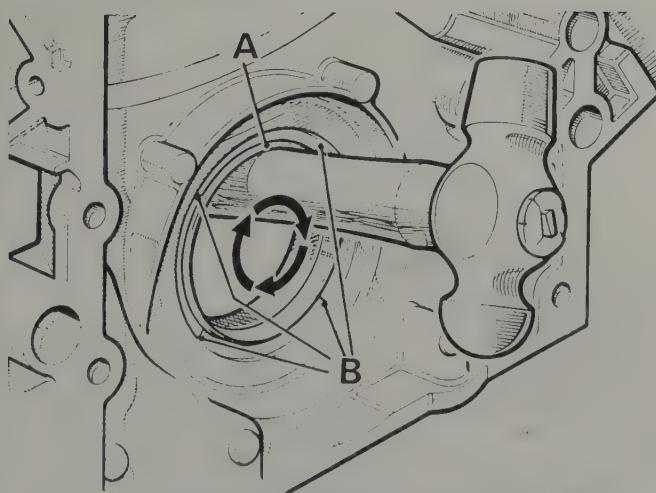

Fig. 1.31. Method of locating timing cover oil seal (A) equidistant staking points (B)
- 2 Fit the new oil seal into the new thrower. (Fig. 1.31).